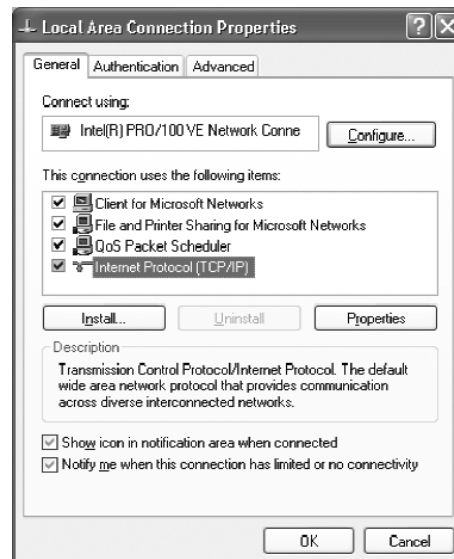

Figure 2
- Select “Properties” and a window similar to Figure 2 should appear